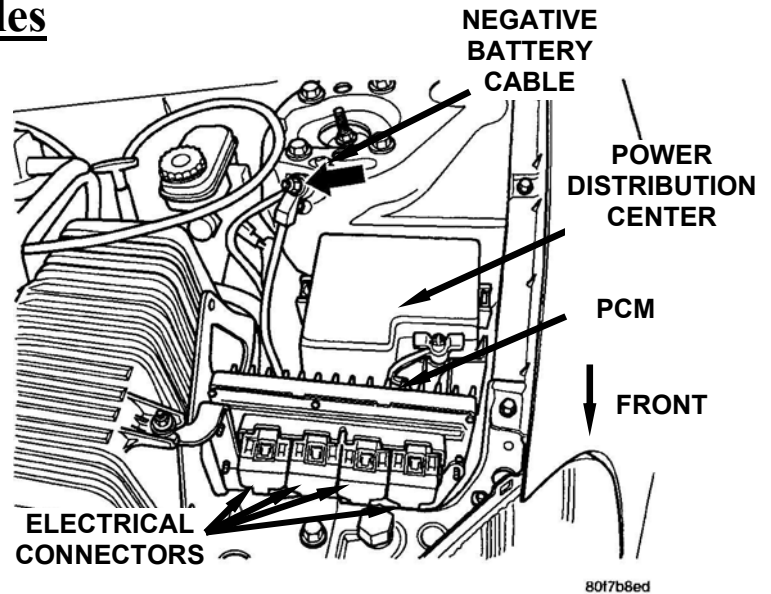

Figure 4
1. Disconnect the negative battery cable (Figure 4).
2. Disconnect the four (4) PCM electrical connectors and set the wiring harness aside (Figure 4).
3. Remove the two (2) PCM bracket fasteners and then remove the PCM and bracket assembly (Figure 4).
4. Remove the three (3) PCM bolts, then remove the PCM and discard it.
6. Install the PCM and bracket assembly (Figure 4). Tighten the fasteners to 35 in-lbs (4 N·m).
7. Connect the four (4) PCM electrical connectors.